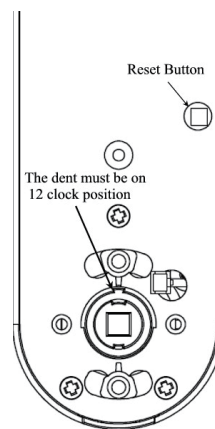

fig. 1
1.1 Mark centerline on door and jamb (see fig. 1).
1.1 The dent should be on 12-clock position (see fig. 1), if not, rotate Square Spindle to let the dent be on 12-clock position.
3.1 Make sure that the dent is on 12-clock position when lock hasn't be installed on the door (see fig. 1), if not, rotate Square Spindle.